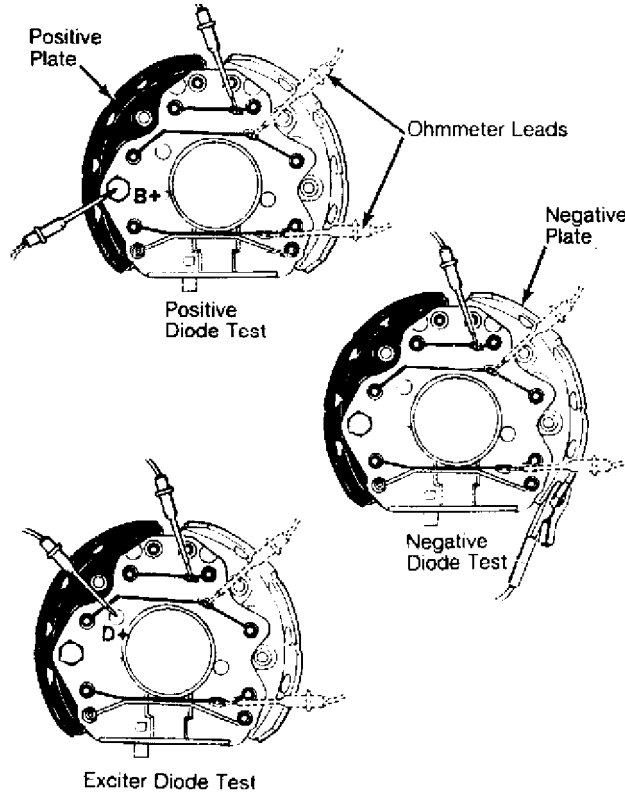

Fig. 2: Testing Bosch Diode Assembly
2) Connect ohmmeter leads across negative plate and each of the 3 stator terminals, in turn. See Fig. 2. Reverse leads. Ohmmeter